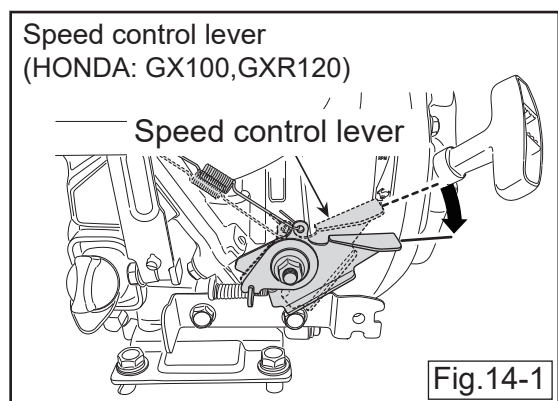

Fig.14-1
- Open the speed control lever half. (Fig.14-1 to 2)